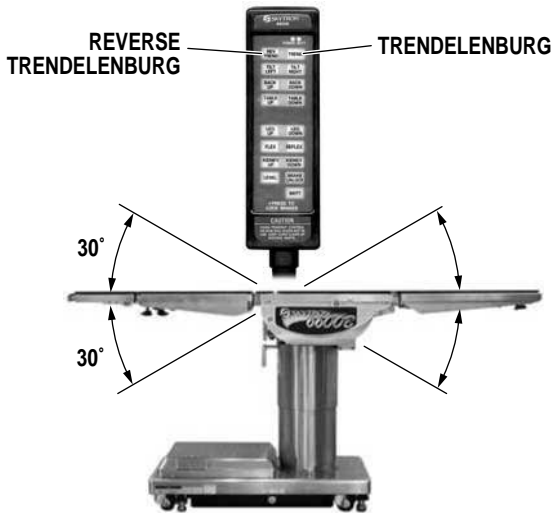

Figure 3-4. Trendelenburg Positioning
b. Trendelenburg. To place the table in a Trendelenburg (head down) position, press the TREND button (figure 3-4). To place the table in a reverse Trendelenburg (head up) position, press the REV TREND button. Trendelenburg positioning of up to 30° may be obtained.